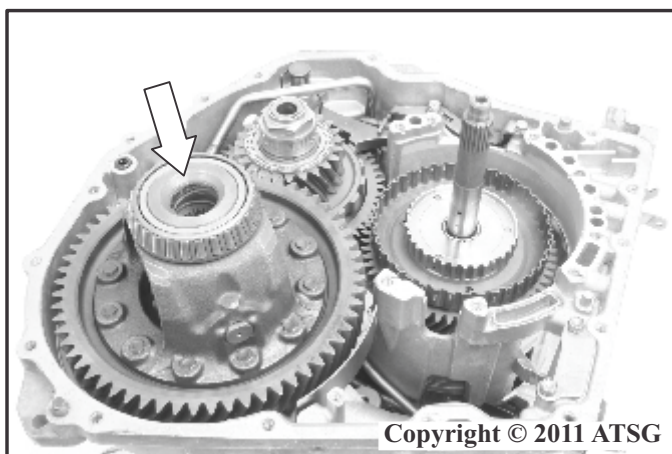

Figure 35
39. Remove the front differential carrier assembly by lifting straight up as shown in Figure 35.